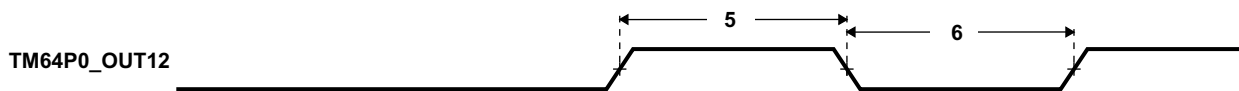

**Figure 6-49. Timer Timing**
**Table 6-79. Timing Requirements for Timer Input(1) (2) (see Figure 6-49)**